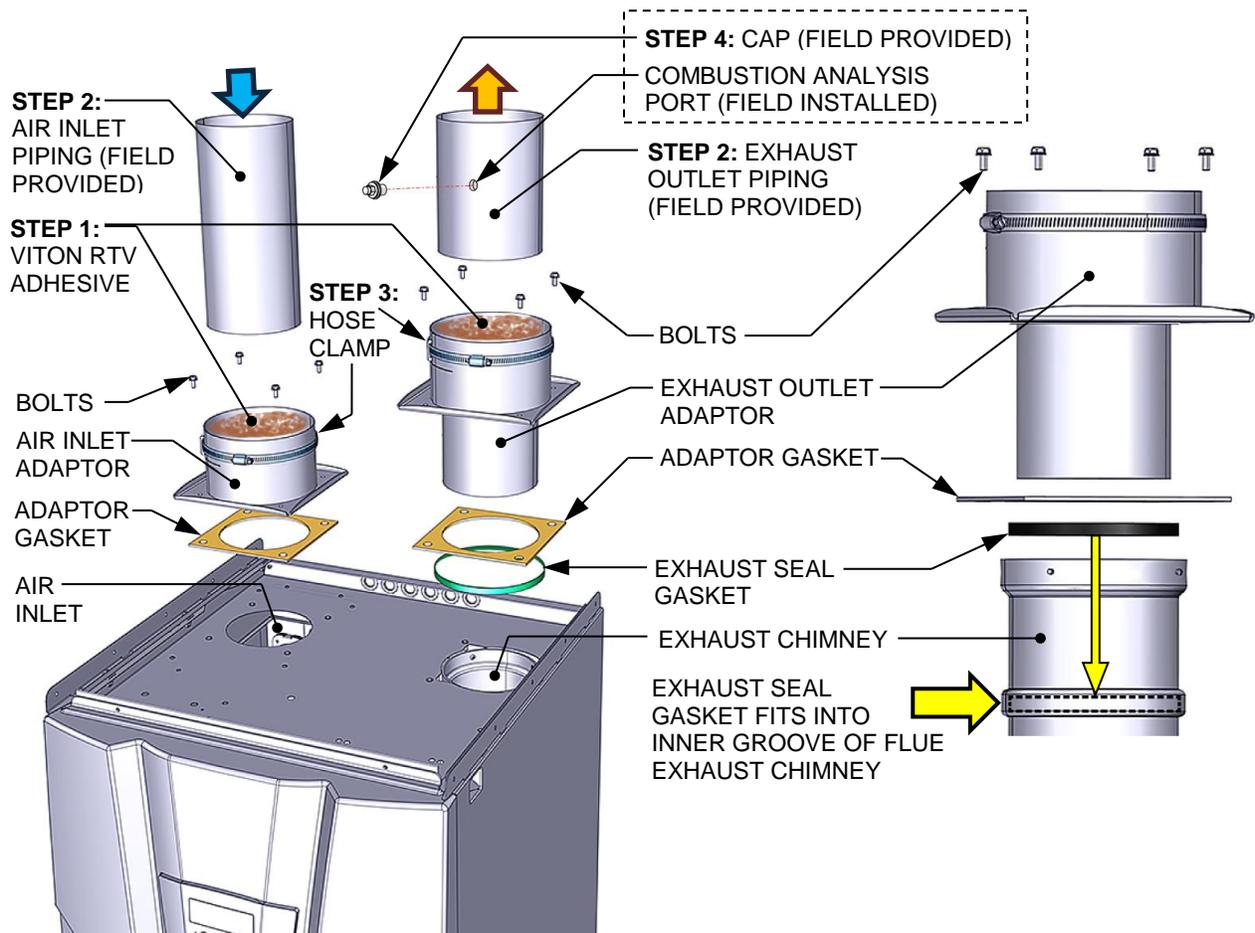

Figure 6-2: Air Intake and Vent Connection Installation
Figure 6-2 shows how the air intake and vent outlet adapters are assembled. To connect a vent pipe to the air intake and vent outlets, proceed as follows while referring to Figures 6-2 and 6-3:
1. Apply a suitable sealant (Viton RTV or equivalent) to the inside diameter of both the air inlet adaptor and vent outlet adaptor (see Figure 6-2) to create an airtight seal with the piping.
3. Tighten each adaptor hose clamp (Fig. 6-2) to secure each adaptor to its respective piping.
4. Drill a 1/4” hole into the exhaust outlet piping in approximately the position as shown in Figure 6-2. This port will be used as a combustion analysis port during the combustion calibration procedure described in Section 8.2. Procure a suitable cap to plug this port when it is not being used for calibration.